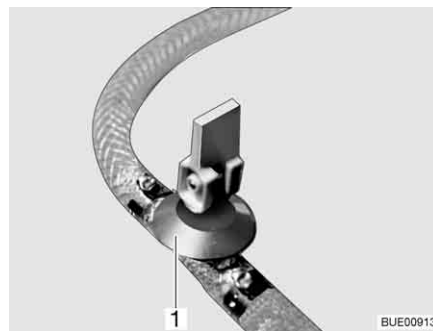
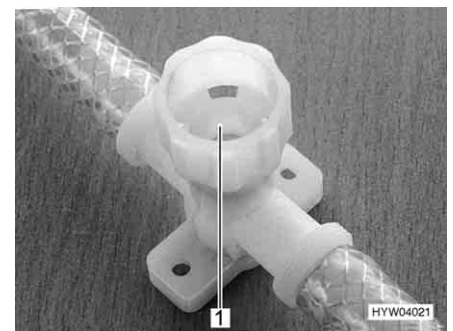

Fig. 212 Drain cock (with rocking lever)
Fig. 213 Drain cock (with twist cap)
- Open all drain cocks. To do this, position the drain cock's rocking lever (Fig. 212,1) vertically or turn the drain cock's cap (Fig. 213,1) in an anti-clockwise direction.